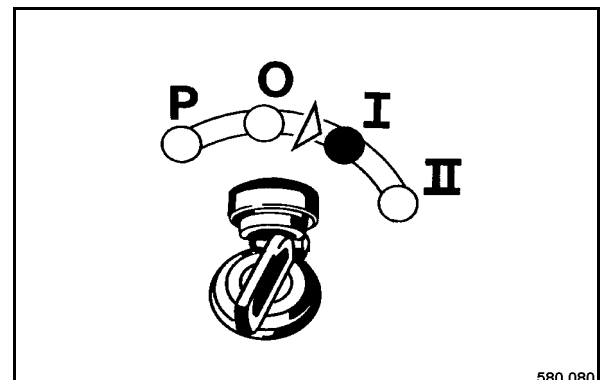

Fig. 89
- Turn the ignition key (Fig. 89) to position "I". The BTM plus/prof performs a self-test.